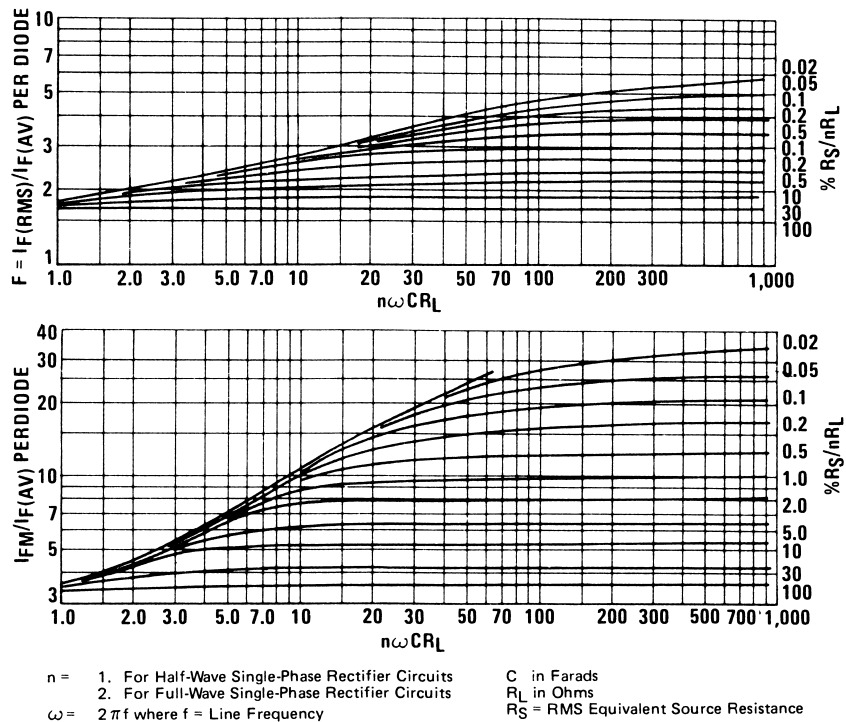

FIGURE 8.7. Relation of RMS and Peak to Average Diode Current in Capacitor-Input Circuits. (From O. H. Schade, Proc. IRE, vol. 31, p. 356, 1943.)
- b) Determine peak diode current ratio from Figure 8.7; remember to allow for highest operating line voltage and +100% capacitor tolerance
$=$ form factor from Figure 8.7
$I_{FM} = 8 \times 1.5 \text{ A} = 12 \text{ A}$, from Figure 8.7, allowing